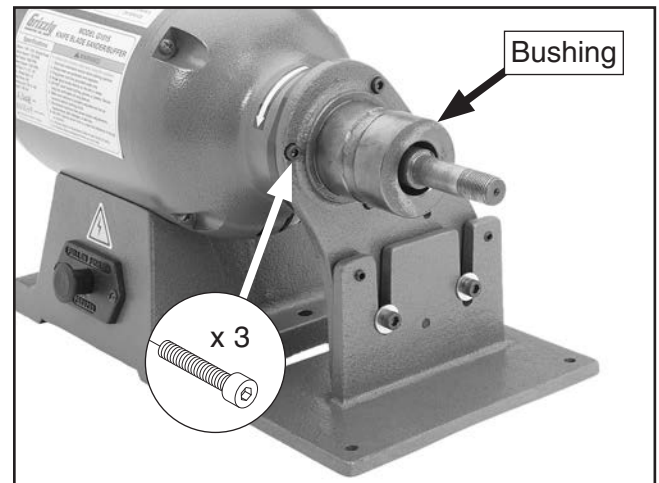

Figure 11. Arm bracket assembly installed onto the motor assembly.
5. Slide the arm bracket assembly onto the right-hand arbor with the arm bracket bushing facing out, as shown in **Figure 11**, then secure it with the remaining (3) 1/4"-20 x 1/2" cap screws.